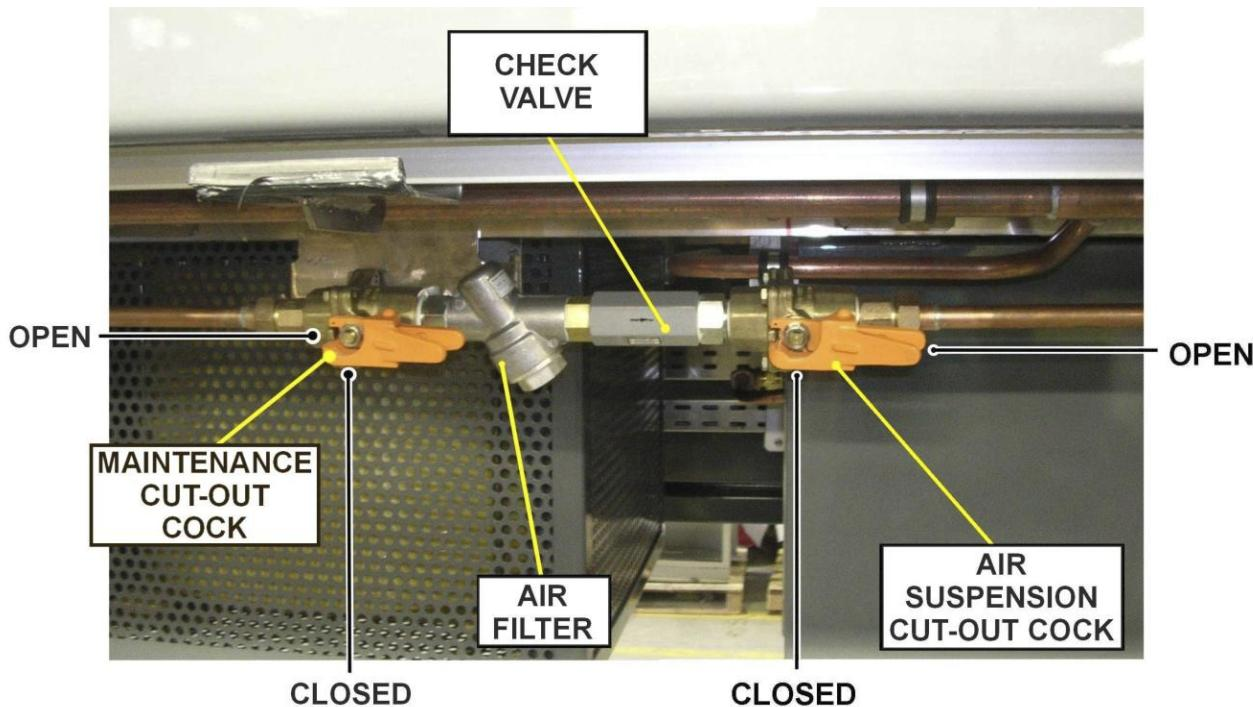

Figure 1 - SUSPENSION MAINTENANCE CUTOUT COCK
9. Vent pneumatic pressure from Air Piping by closing the Air Suspension Cut Out Cock (Refer to Figure 1).
5. Connect the Mean Pressure Valve (1) to the pipeline by means of Adapters (5).
6. Pressurize Air Piping by opening Air Suspension Cut Out Cock (Refer to Figure 1).